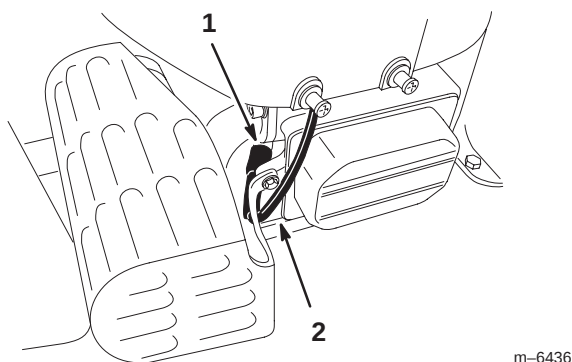

Figure 25
2. Pull the wire off of the spark plug (Fig. 25). Clean around the spark plug to prevent dirt from falling into the engine and potentially causing damage.
3. Push the wire onto the spark plug (Fig. 25).